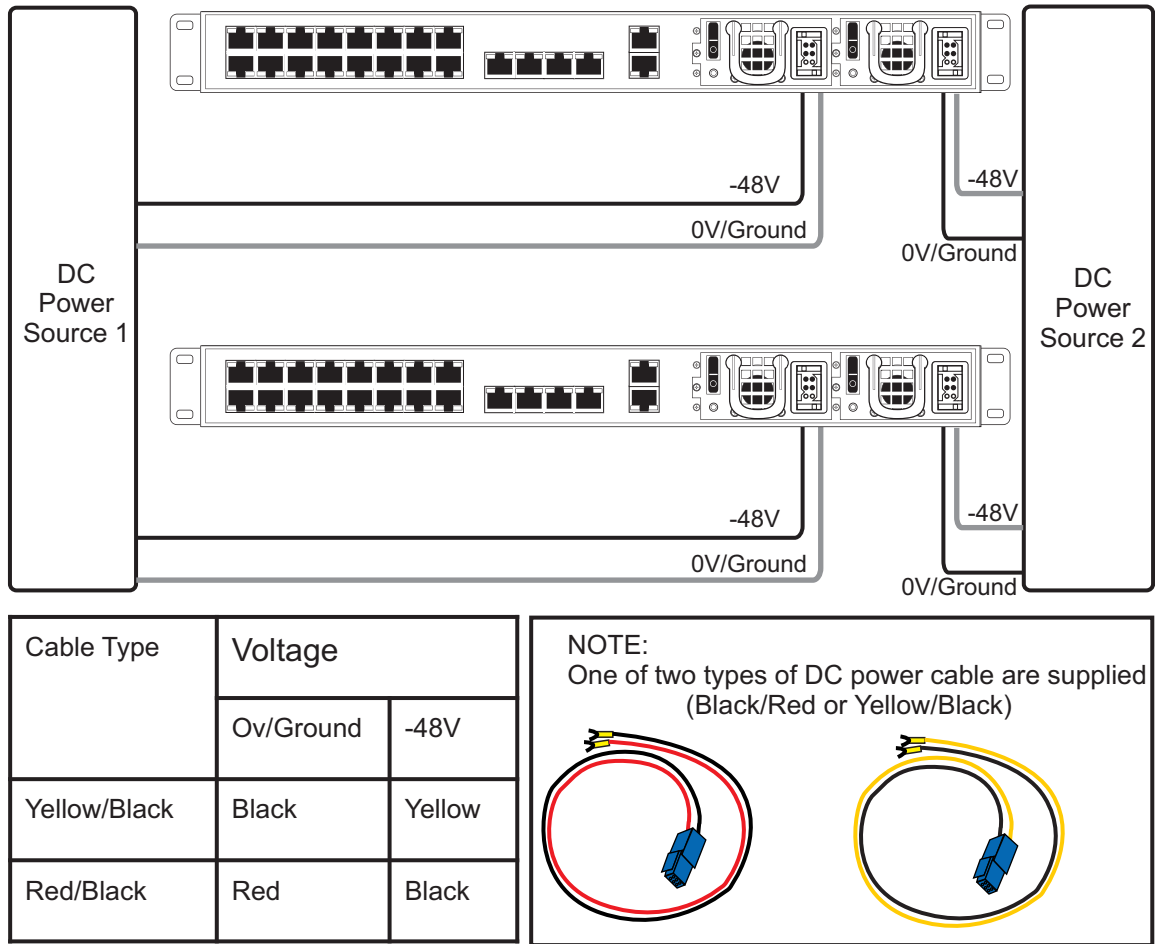

Figure 5.5 7800-TMS DC wiring diagram
1. Connect the first DC power connector of each 7800-TMS to DC power source one. See Figure 5.5 on page 43.